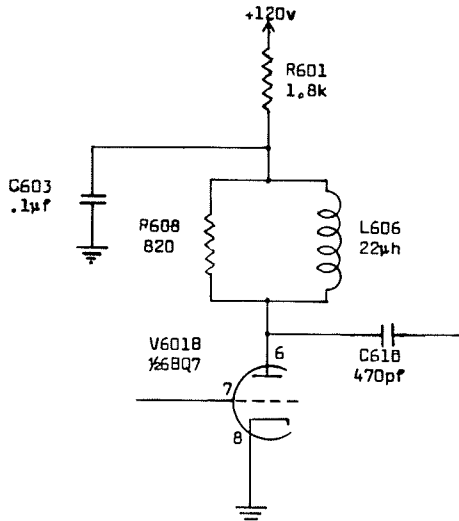

Figure 5. Type 524D/524AD Time-Mark Generator for serial numbers 1843 and up (partial schematic).
2. Refer to Figure 5. Decouple the 120 v plate supply of V601B by adding a 1.8 k, 1 w, 10% composition resistor (Tek no. 304-182) and a 0.1 μ f, 500 v discap (Tek no. 283-008) as shown in Figure 5.